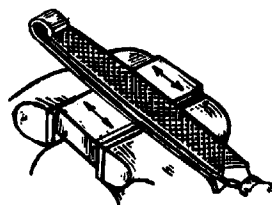

FIG. 4 WORKING WITH EMERY CLOTH
6. Place the emery cloth on the surface to be polished. Move across the work in a forward and backward motion. Repeat the process until the desired finish is obtained. (Fig. 4).